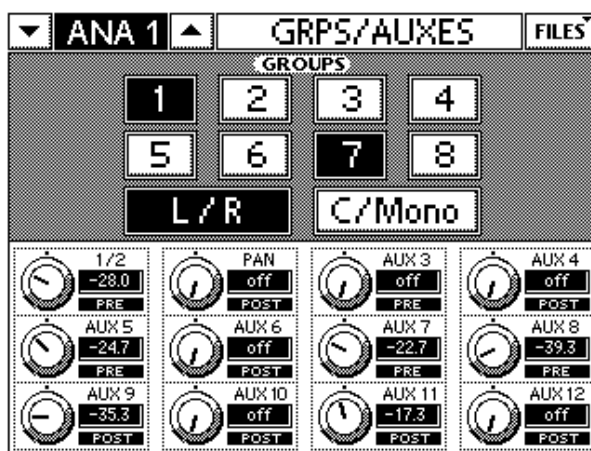

Figure 2-8 GRPS/AUXES Touchscreens
7. Press the **GRP/AUX** QuickMix button to display the GRPS/AUXES Touchscreen (Figure 2-8).